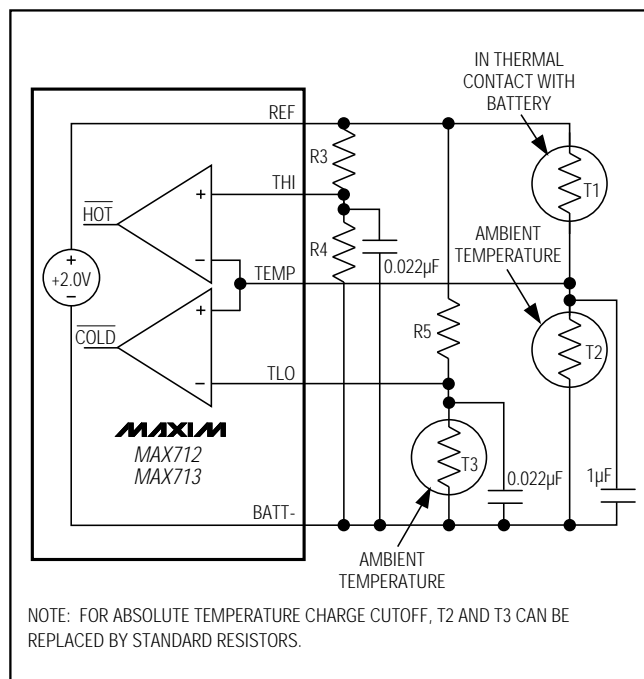
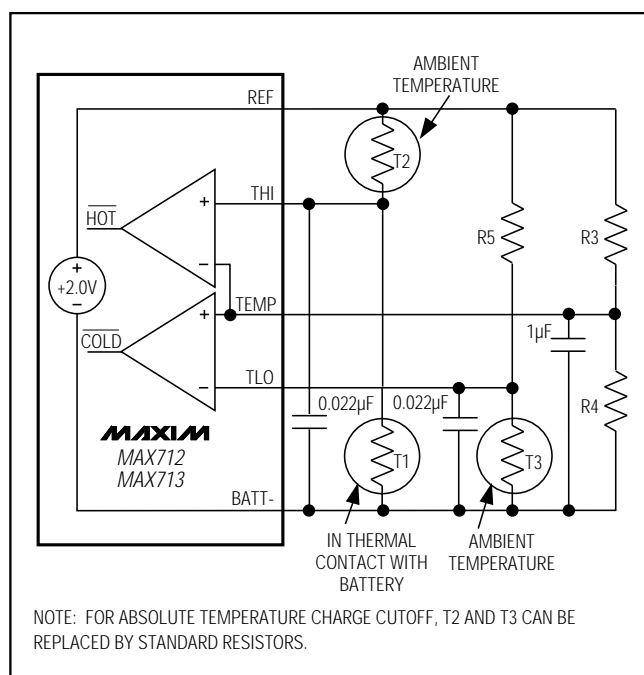
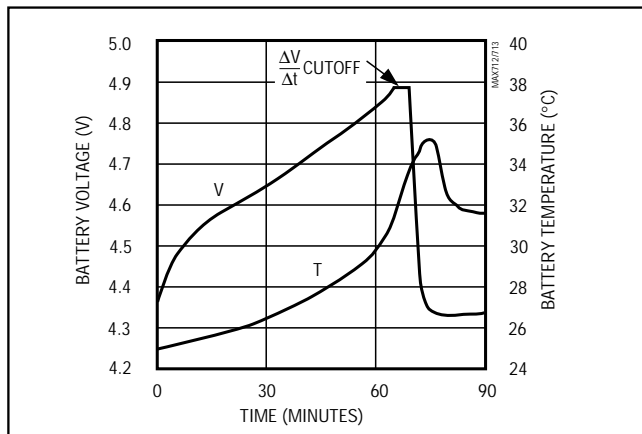

Figure 9a. Temperature Comparators
Figure 9b. Alternative Temperature Comparator Configuration
Figure 13. 3 NiMH Cells Charged with MAX712
Figure 9a shows how the MAX712/MAX713 detect over- and under-temperature battery conditions using negative temperature coefficient thermistors. Use the same model thermistor for T1 and T2 so that both have the same nominal resistance. The voltage at TEMP is 1V (referred to BATT-) when the battery is at ambient temperature.
terminal. In this case, use the configuration shown in Figure 9b. Thermistors T2 and T3 can be replaced by standard resistors if absolute temperature charge cut-off is acceptable. All resistance values in Figures 9a and 9b should be chosen in the 10k Ω to 500k Ω range.
Figures 13 and 14 show the results of charging 3 AA, 1000mAh, NiMH batteries from Gold Peak (part no. GP1000AAH, GP Batteries (619) 438-2202) at a 1A rate using the MAX712 and MAX713, respectively. The *Typical Operating Circuit* is used with Figure 9a's thermistor configuration.